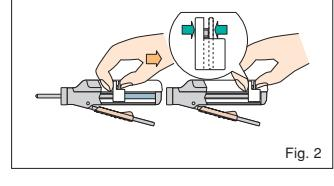

Fig. 2
a) Make sure that the piston is completely retracted into the dispenser. (Fig. 2)